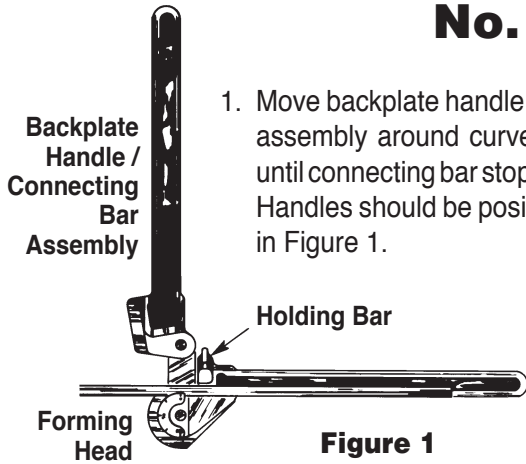

Figure 1
1. Move backplate handle / connecting bar assembly around curved forming head until connecting bar stops on holding bar. Handles should be positioned as shown in Figure 1.